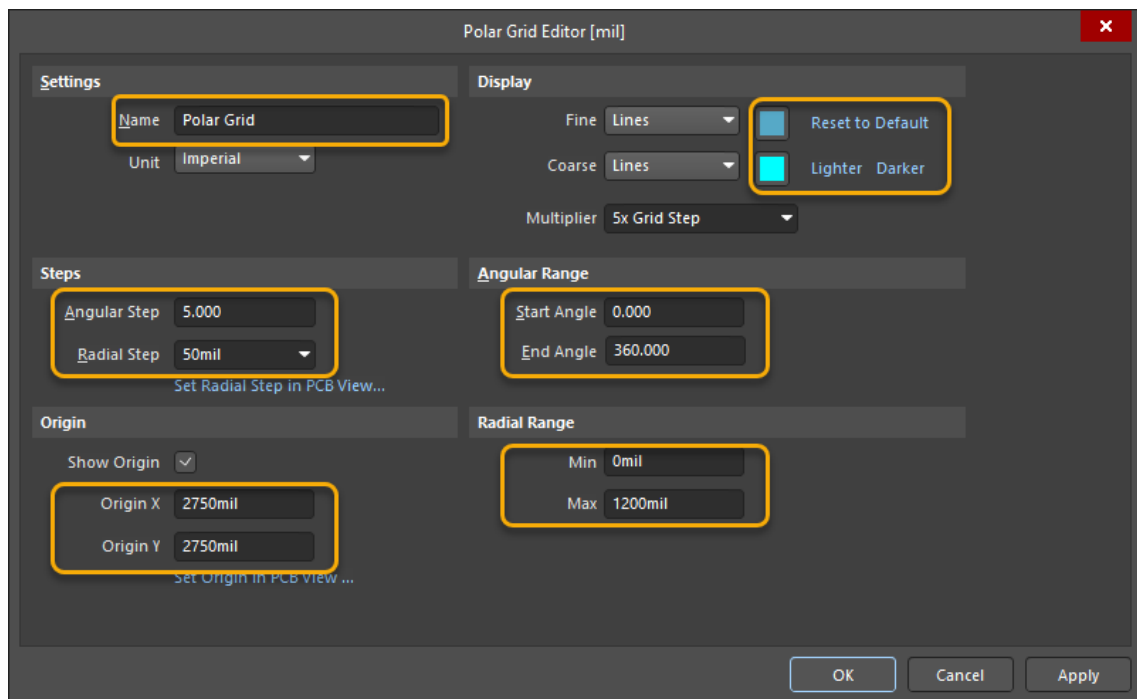

Figure 9. Polar Grid Editor
31. Double-click the *New Polar Grid* name to open the *Polar Grid Editor*. Set the values as shown in Figure 9 below. The *Fine* and *Coarse* line colors are assigned to values 106 and 107 respectively.